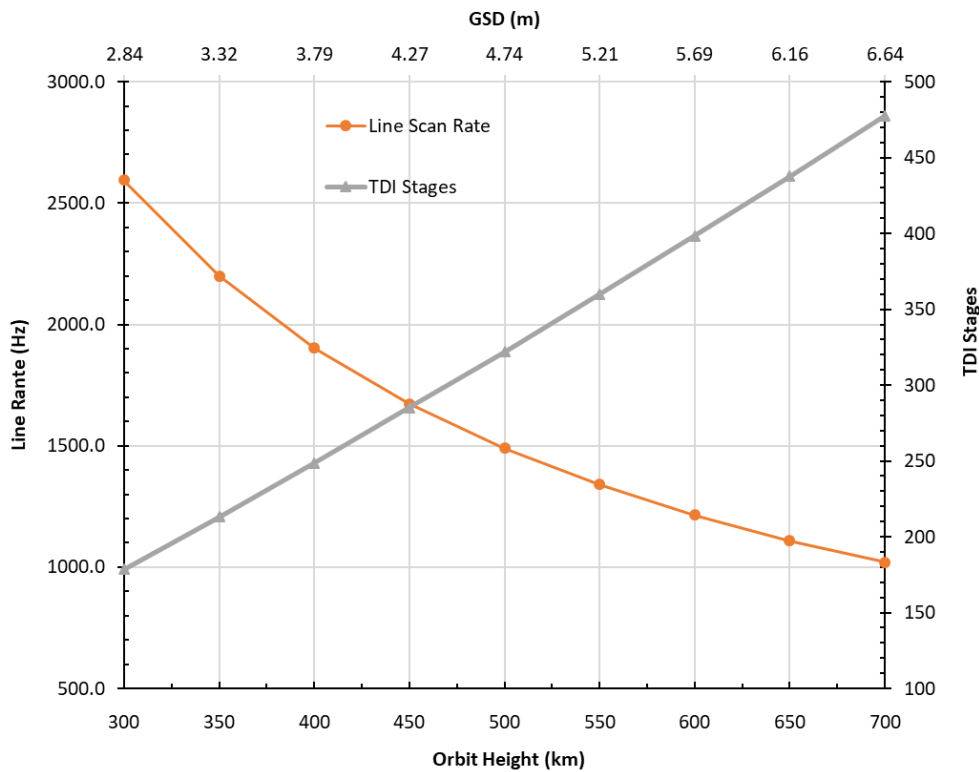

Figure 3-1: Line Rate and TDI Stages
(1) Dependant on orbit height, see Figure 3-1
(2) Including filter
(3) At 500 km orbit height
The windowing mode of the sensor allows capturing of up to 7 spectral bands. The number of TDI stages for each band may be individually selected by the user in multiples of 2, to a maximum of 32. The sum of all the TDI stages (across all the bands) is limited by the line scan rate, which is determined by the orbit height for earth observation satellites, as shown in Figure 3-1. The graph shows that at lower orbit heights, an increased line scan rate reduces the total number of TDI stages available. For example, at 500 km orbit height, a total of 320 TDI stages are available, which is more than enough to allow the user to select up to 32 TDI stages for each of the 7 bands.